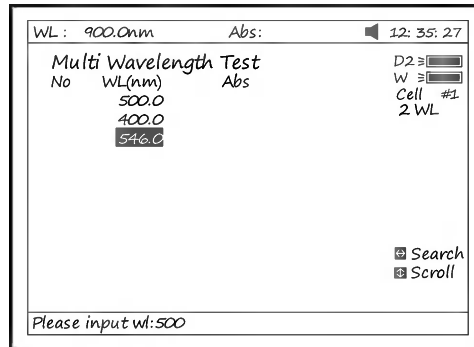

Fig 69
1. Press **【F1】** to setup a group of wavelengths for testing by pressing the numeric keypad followed by **【ENTER】** . (^) or (v) to modify the inputted data Fig. 69. Press **【ESC/STOP】** to finish setup and exit.